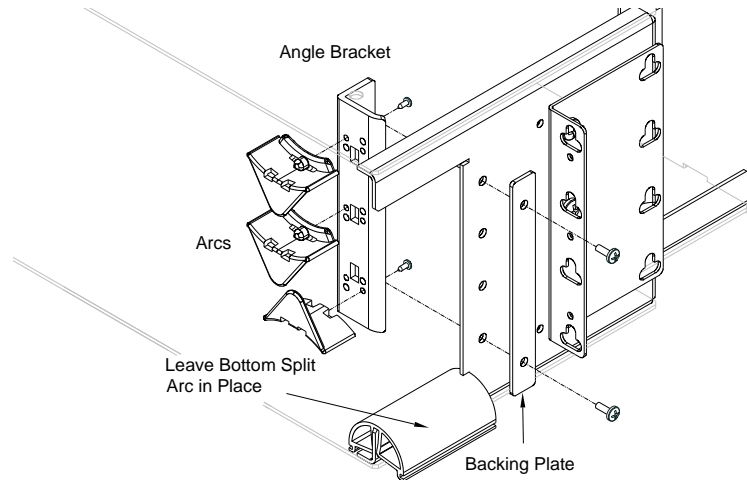

Figure 33 - Installing An Optional Arc Kit
(See Figure 33.)
- Remove the split arc at the top of the applicable corner entry/exit. Leave the split arc at the bottom in place, as shown in Figure 33.